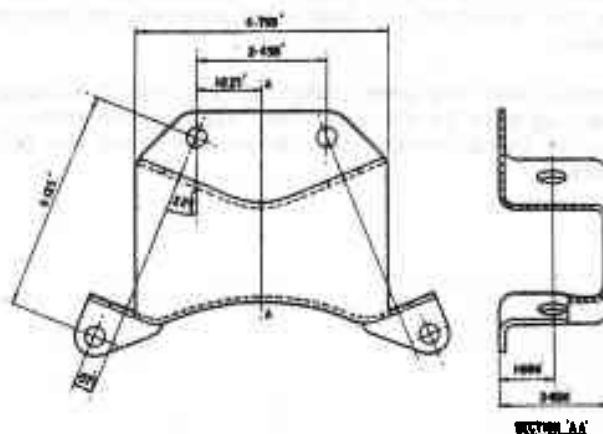

FIG. H20. CENTRE BRACKET - LOWER TRIANGLE LEVERS.
- (iii) Remove nuts and setscrews from centre (jacking) plate, do NOT remove the two $\frac{3}{8}$ " B.S.F. nuts near the centre. Remove the four $\frac{5}{16}$ " set-screws, two at the front of the plate and two at the rear, only visible from the upper side. Lower the centre plate from the front pan, exposing the bracket to which the inner ends of the lower triangle levers are attached. Remove the levers from the centre bracket and the bracket from the plate. Check centre bracket for trueness, the principal dimensions are shown in Fig. H20. Replace Silentbloc bearings if necessary.